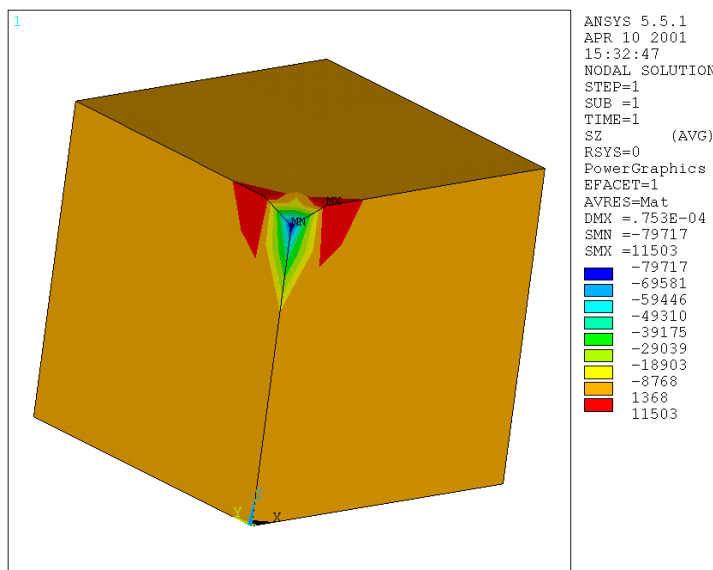

Figure 2.1
4. Choose the quantity you wish to see displayed. In this case, pick 'Stress' from the box on the left, and 'Z-direction SZ' from the box on the right to display the normal stress in the Z direction. The resulting plot is shown in Figure 2.1.